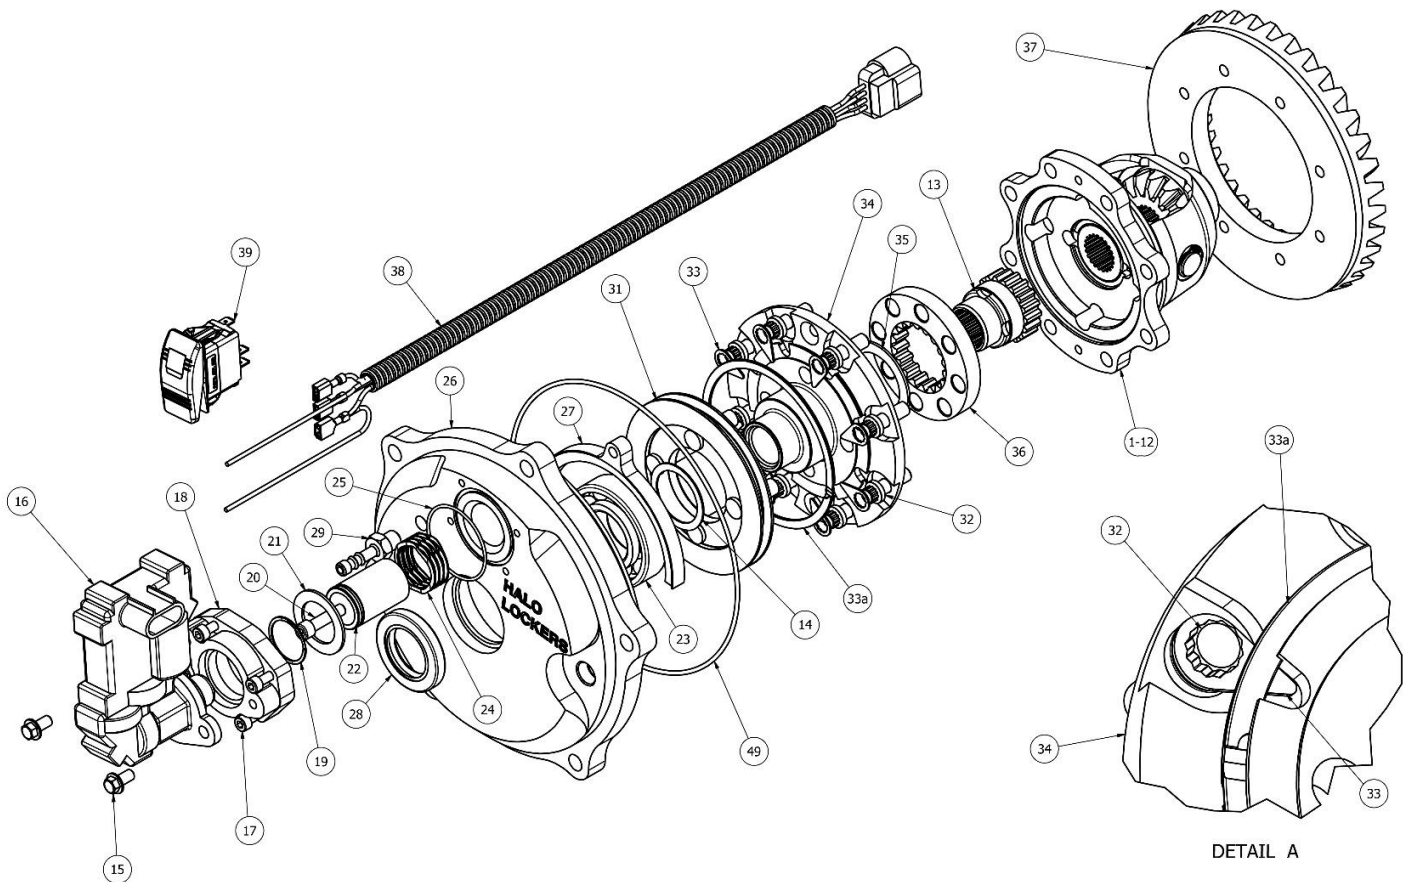

Figure 3
7. Remove screws (12) and remove carrier cap (10) from carrier (1). Screws (12) will not be used for reassembly, they are now unnecessary and could loosen/come out and causing damage.
8. Visco gear (13) will be stuck in cap (10), remove Visco gear (pry out with flat screwdriver if needed) and save for reinstallation later.
9. Remove all clutch plates and discs (8), (8a), (9) from carrier (1). Be sure to remove all clutch plates/discs it is common to miss one.
10. Prior to 2018 many differentials used plastic conical thrust washer (4) they should be replaced in step 11. If your carrier already has steel conical thrust washers you can skip step 11.
11. Remove cross shaft clip (7) and cross shaft (6) being careful not to misplace any shims behind axle shaft gears (3). Replace conical thrust washer (4) with the ones supplied in kit and reinstall shaft (6) and clip (7).
12. Use Figure 3 to reassemble differential with locker kit.